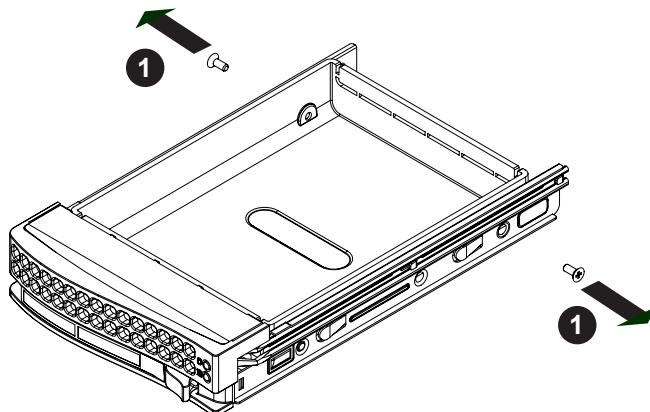

Figure 6-17. Removing Dummy Drive from Tray
The drives are mounted in drive carriers to simplify their installation and removal from the chassis (Figure 6-17). These carriers also help promote proper airflow for the drive bays.
1. Remove the screws holding connecting the drive tray the carrier (Figure 6-17).